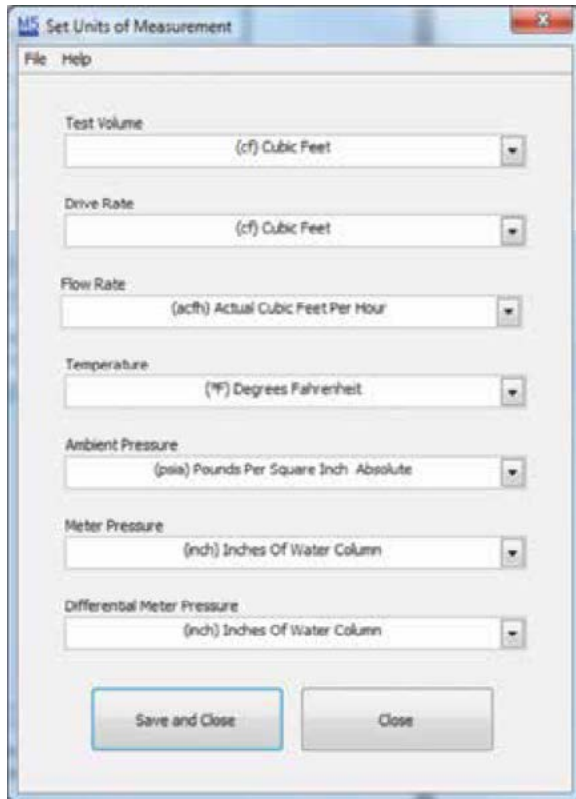

Figure 17: Units of Measurement Window
5. A new window will appear, as shown in Figure 17. Review all the units of measurement available for change.